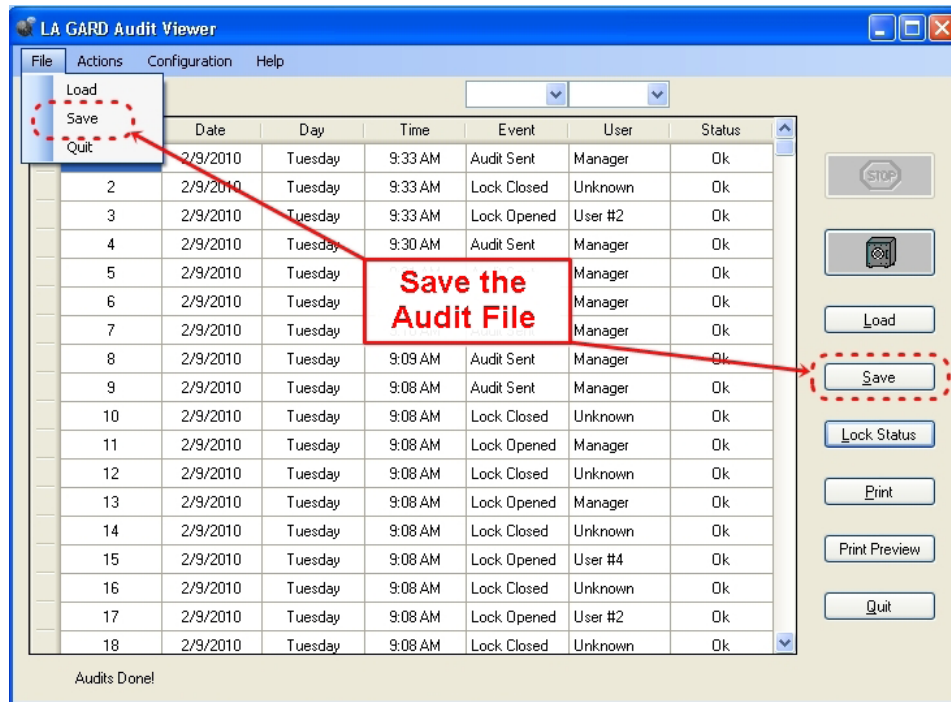

Figure 20
1. Click the **Save** button or select Save from the **File** menu on the Menu bar (Figure 20).